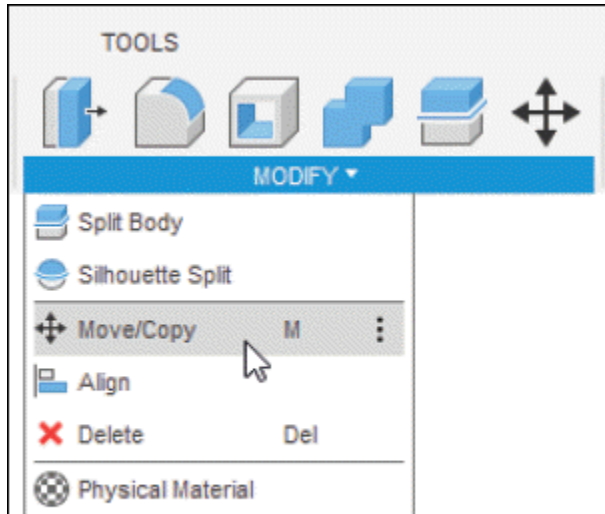
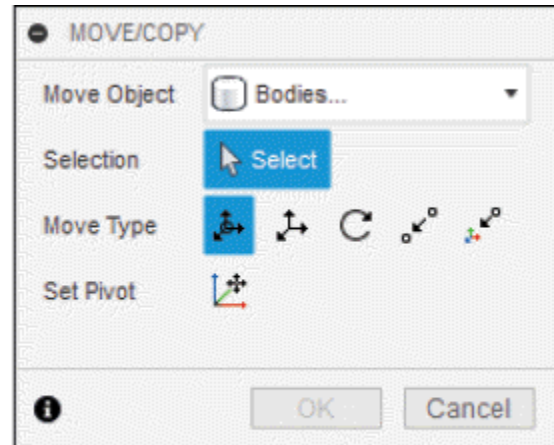

Figure-51. Move Copy tool
Figure-52. MOVE COPY dialog box
- Select **Move/Copy** tool of **MODIFY** drop-down from **Toolbar**; refer to Figure-51. The **MOVE/COPY** dialog box will be displayed; refer to Figure-52.